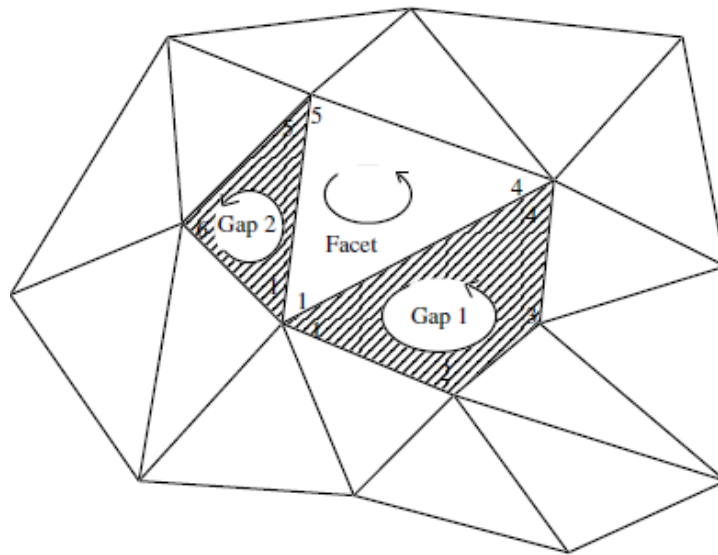

Figure 3A
- 2B.** With respect to Silicon Rubber Tooling (SRT), answer the following (03) questions:
- 2C.** Distinguish between Conventional Tooling and Rapid Tooling (RT). (02)
- 3A.** For the STL file shown in figure 3A below, apply the right-hand rule adopted by STL format and solve the gap encountered. (06)